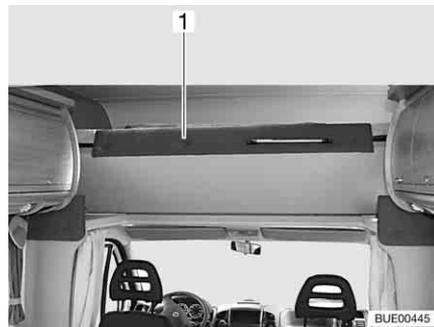

Fig. 112 Overcab bed, folded upwards
- Fold the front of the overcab bed (Fig. 112,1) upwards. The overcab bed is kept in the upper position by gas-pressure springs.